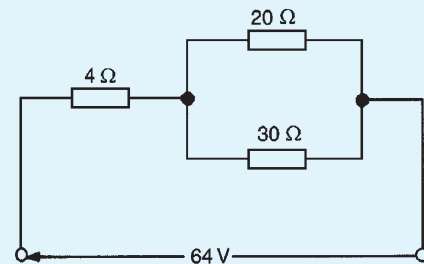

Figure 5.31
- (a) Calculate the current flowing in the $30\ \Omega$ resistor shown in Fig. 5.31. (b) What additional value of resistance would have to be placed in parallel with the $20\ \Omega$ and $30\ \Omega$ resistors to change the supply current to 8 A , the supply voltage remaining constant.